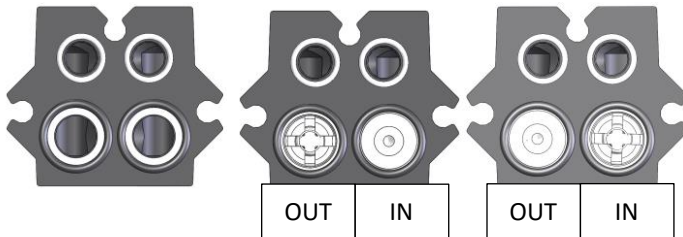

Figure 8
- Replace all valves, o-rings, and white washers. Refer to Fig. 8 and manifold label to understand proper orientation.